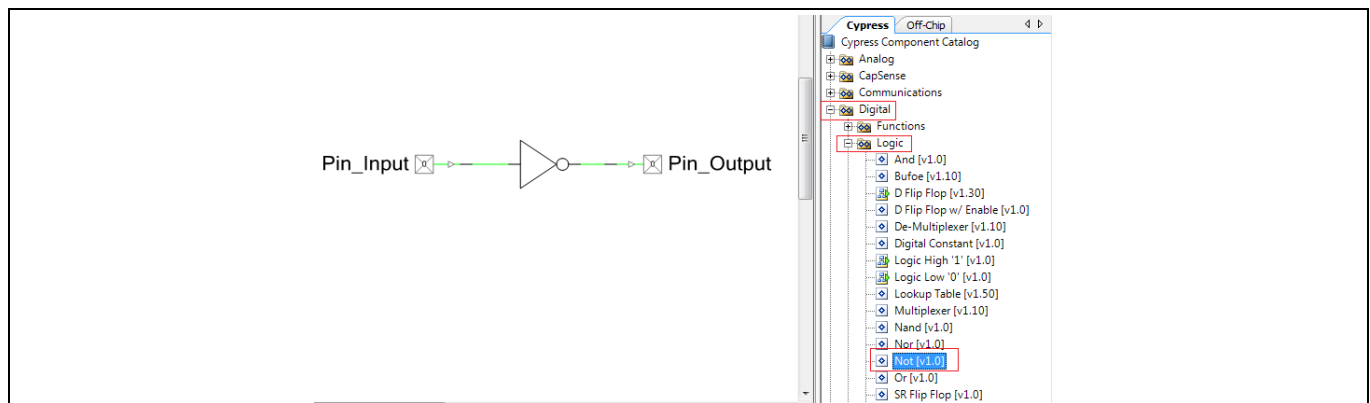

Figure 50 NOT Gate Connection
- Place a NOT gate and connect to the pins as **Figure 50** shows.